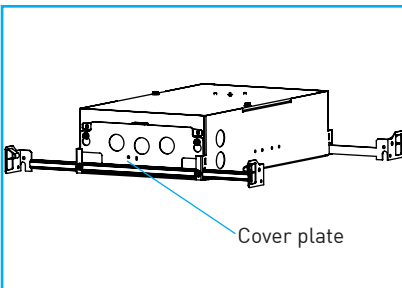
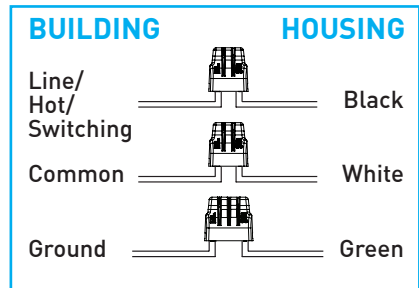

Fig.10
Fig.11
To gain access to wiring compartment, loosen retaining screws and lift cover plate up and away "Fig.10".
Feed structured building wires through knockout, secure to corresponding connector "Fig.10" "Fig.11" and tighten strain relief.
**Quick connectors** provided for line / mains voltage connection: black (hot), white (common) and green (ground) "Fig.11".